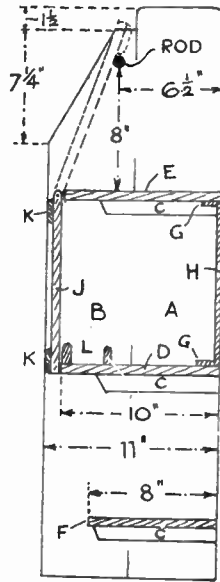

Fig. 3—Side elevation
Fig. 3 gives a sectional view showing the shelving and their supports, also the swing door showing the two positions, open and closed.
Dowels about 1in long and 1/4in diameter should be used, and the holes for them must be carefully bored to keep the edges of the battens true and level. It will be noted from Fig. 3 that one board in each pair, constituting one side, is 1 1/2ins. shorter than the other and that the front member only is cut to shape, the measurements here being given. The triangular piece so cut away can be done
Next prepare two fillets (G) 15ins. long and 1in. by 1/4in. and glue and nail them along the backs of the shelves (D) and (E) as shown to take the panel forming the back of the cupboard. The fillets will be put in 1/4in. from the back edges of the shelves to form the rebate for the panel shown as (H) in Fig. 3. The supports (C) under the shelf (E) can now be put in, the back edges of them being notched out to fit round the fillet (G).
The rails should be screwed on from the back so the heads do not show on the face of the door. The heads at back can be countersunk and filled before the black matt paint or special blackboard paint is put on. The correct position of the support rod for the door is given in Fig. 3.
It only remains to form the tray just inside the front of the cupboard for chalks etc. Two narrow rails cut the width of the cupboard and about 1 1/2ins. or 1 3/4ins. wide by 3/8in. thick are glued and screwed to the shelf (D) as seen at (L) in the section Fig. 3. Round the top edges and make them smooth.